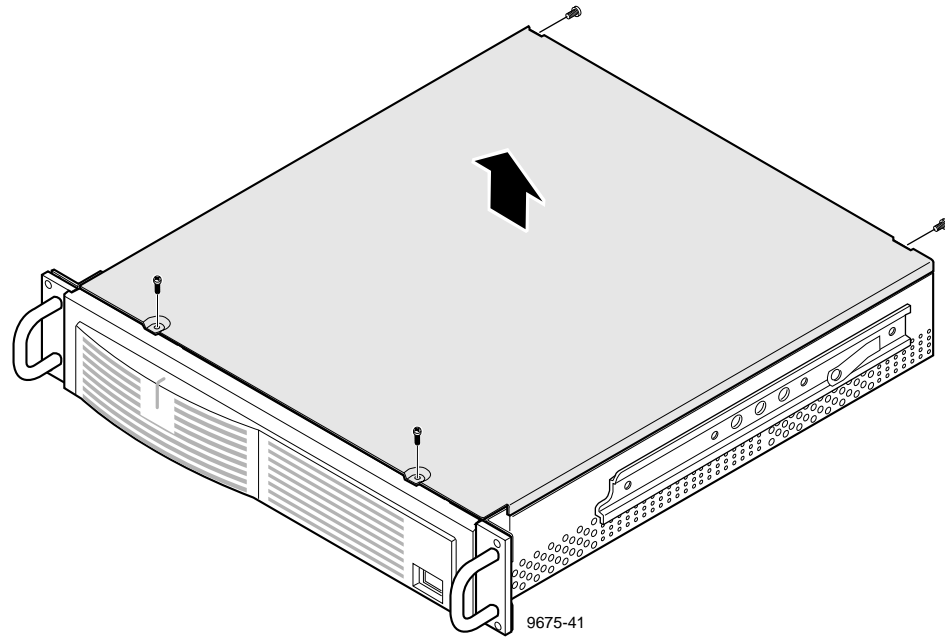

Figure 1. Removing the PAC200 audio chassis cover
To remove the chassis cover, refer to Figure 1 and:
2. Use the Torx tool with the T15 tip to remove the four screws from the chassis cover: two on top and two in the rear, as shown in Figure 1.
4. Replace the chassis cover (see Figure 1).